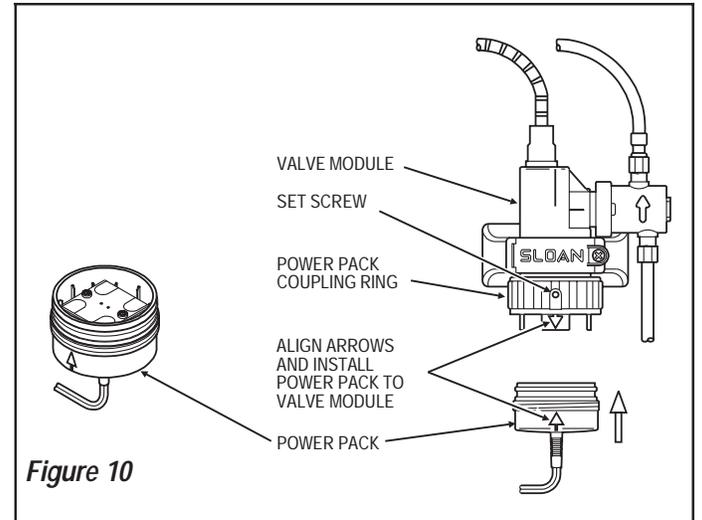

Figure 10
Step 10B — Transformer Installation (Figures 10, 11 and 12)
INSTALL POWER PACK (Figure 10)